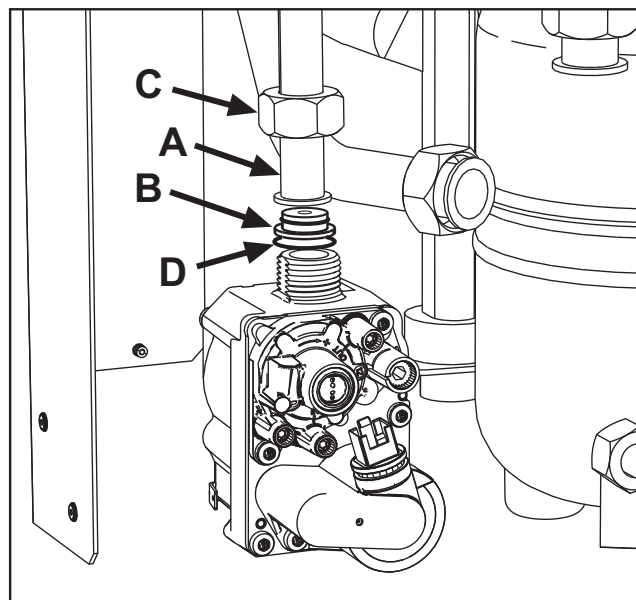

fig. 24
3. Unscrew ring C and remove gas pipe A from the gas valve (see fig. 24).
4. Replace nozzle B inserted in the gas pipe with that contained in the conversion kit, interposing seal D (see fig. 24).